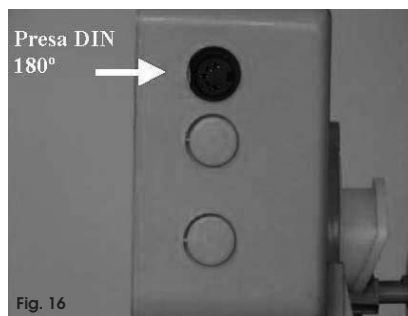

Fig. 16
- Il controller è inibito. Se si sta usando la presa DIN (Fig. 16), verificare che dentro la calotta del connettore non ci siano corto circuiti fra i morsetti.
In fig. 16 è visibile la presa DIN 180° dove è possibile connettere la sonda contaltri.
The installation of the controller must be effected by qualified personal; the procedures of installation must be performed with the controller disconnected from power supply. The controller is composed of a box in ABS, closed frontally from a plate fixed with 4 screws and protected with a transparent cover. The controller is powered with a transformer 230 / 12 Vac. Other type of transformers are available on demand. (Es. 115 / 12 Vac - 60 Hz). If the Aqua Timer is in the Chronometric version, the right side of the box is opened in correspondence of the plug DIN 180° (Fig. 16). If the Aqua Timer is in the Volumetric version, on the back side of the box there is the cable of the water meter cable that must be inserted in the special lodging on the valve or on the SIATA turbine (Fig. 17).